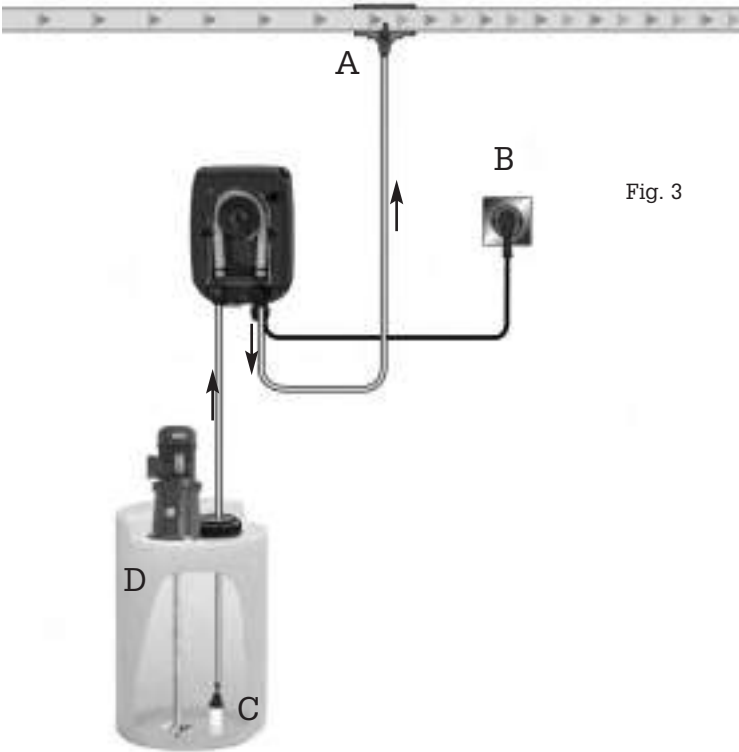

Fig. 3
2.5 - TYPICAL INSTALLATION (Fig.3)